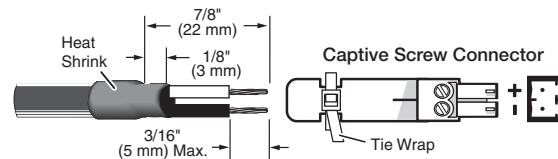

Figure 8. Wiring the Power Connector for the USB Extender Plus, Rack Mountable Models
- **Rack mountable models** — The USB Extender Plus T/R standard and HID Only models are provided with power supplies to which 2-pole captive screw plugs are wired. Plug these connectors into the rear panel captive screw connectors of the transmitter and receiver. If it is necessary to wire a power supply to its connector, see figure 8.